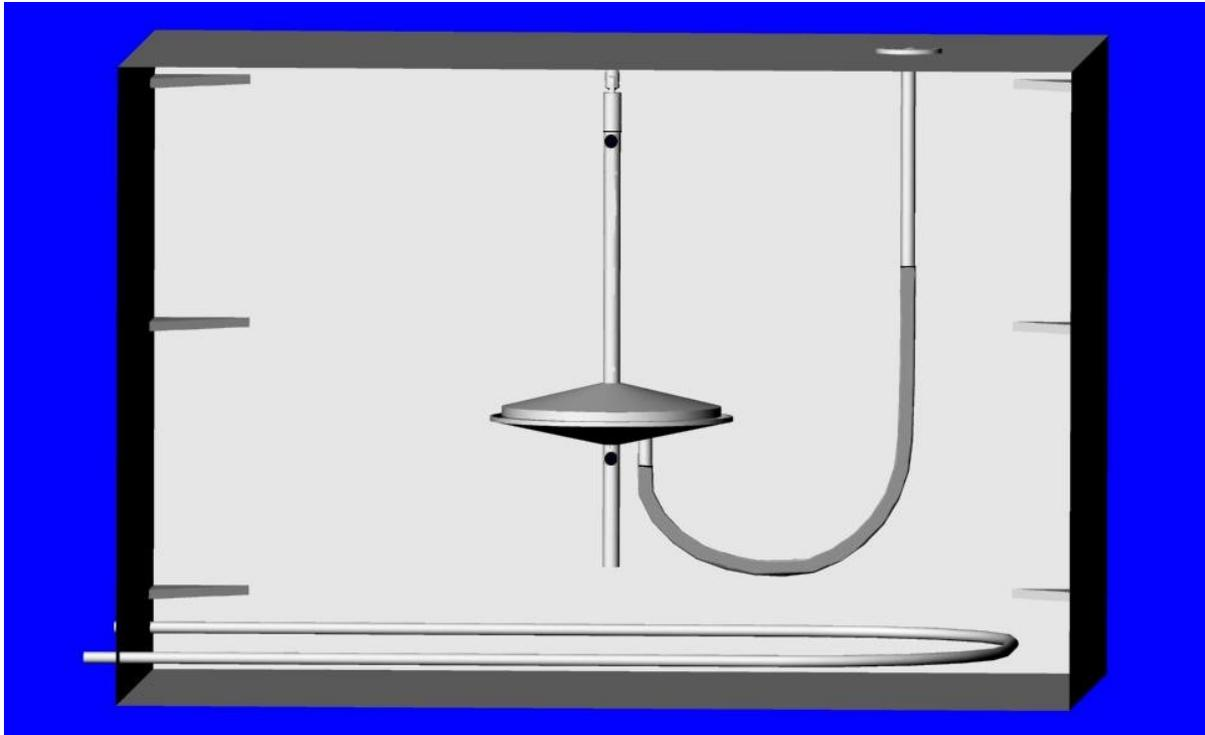
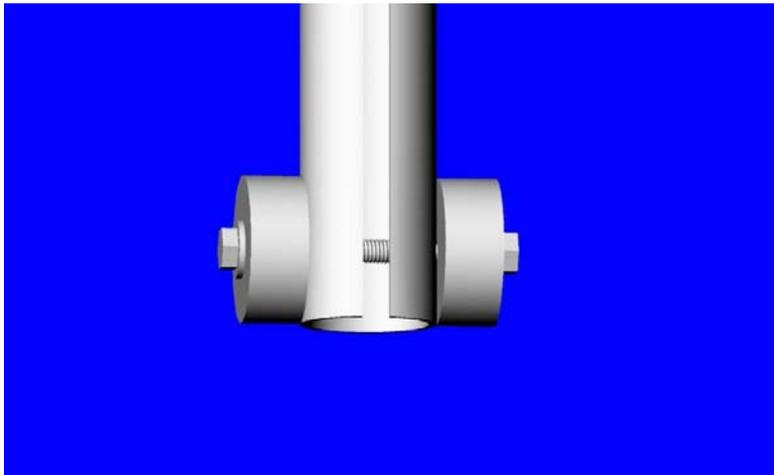
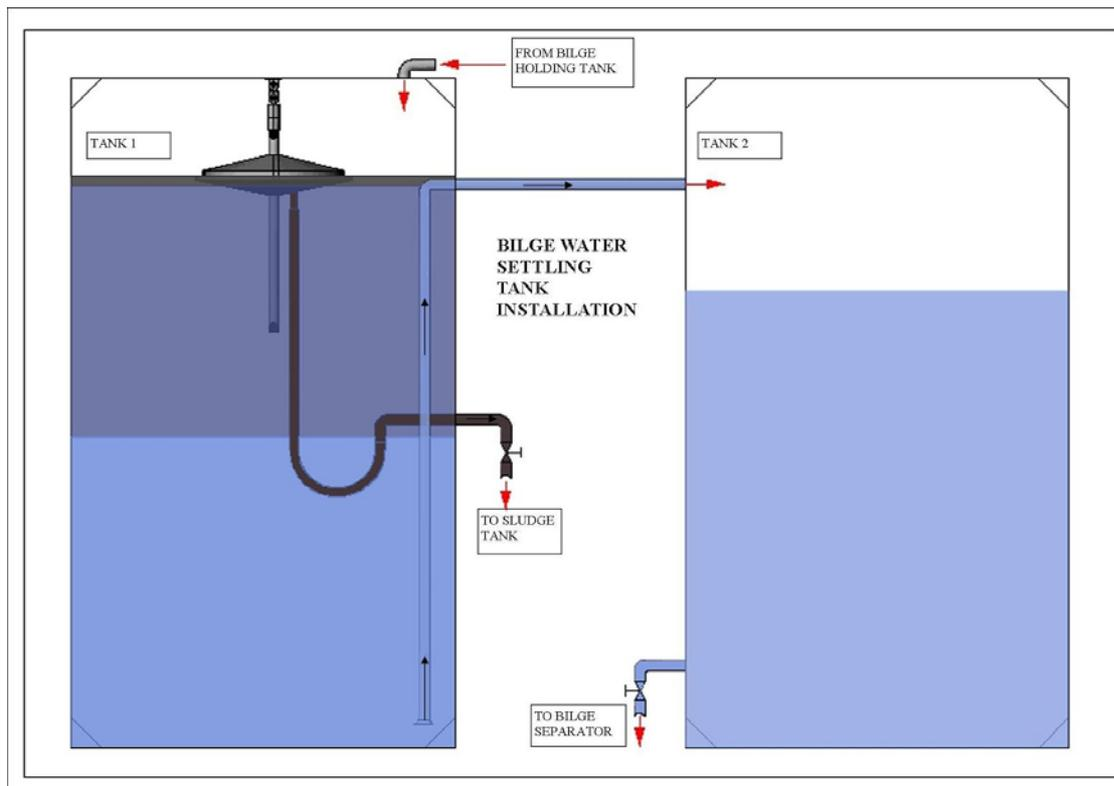

Fig. 5: Double bottom tank with steam coil inside.
Fig. 6: End screw/Damper.
Fig. 7: Bilge settling tank, 2-stages, operated by gravity.
Fig. 6. Drill the new hole about 20 mm from the free end of the guide rod. The guide rod or suction hose must not touch anything inside the tank. Enter the tank and attach the Cardan type fastening device to the fastening bracket. Now you have the guide rod hanging freely and it is then easy to slip on the SB on to the guide rod and fit the end screw (1) in the end of the guide rod. The end screw is fitted with some rubber material in order to dampen the possible hits of the SB if the tank is almost empty. Remember to position the guide rod in such a way that the suction hose is towards the direction of the penetration of the tank. See fig. 5.
50 mm metal pipe with the other provided stainless steel hose clamp. This metal pipe should go down to 1/3 of the depth of the tank. See Fig. 5 or Fig. 7 for an example.
If it is a tank with several stages like 2- or 3- stages it is recommended to install the SB in the first stage or in the stage where most of the oil will be accumulated, see Fig. 7. In a tank like this the level will be almost constant and SB will always be quite high up in the tank.
do this work outside the tank. Then enter the tank and attach the Cardan type fastening device to the fastening bracket. Now you have the guide rod hanging freely and it is then easy to slip on the SB on to the guide rod and fit the end screw in the end of the guide rod. The end screw is fitted, on each side of the guide rod, with two Nitrile rubber circular elements in order to dampen the possible hits of the SB if the tank is almost empty, Fig. 6. This is however never likely to happen in a high tank. Remember to position the guide rod or SB in such a way that the fitting for suction hose (part number 5) is towards the direction of the hose penetration of the tank.
Remember that SB will be rotation locked in a certain position according to the cut out groove in the guide rod hence the suction hose will be in a certain direction as well. A good rule of thumb is to have the suction hose penetration 1,5 meters from the centre of where the SB is attached in the ceiling of the tank. In this way the bend on the suction hose will be very soft and little force will affect the SB. See Fig. 5.